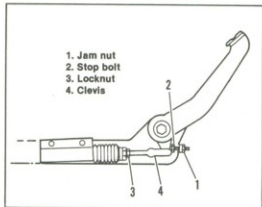

Figure 2-45. Rear Brake Pedal Adjustment
3. FXDG and 1984 FXST/FXWG (Figure 2-45)